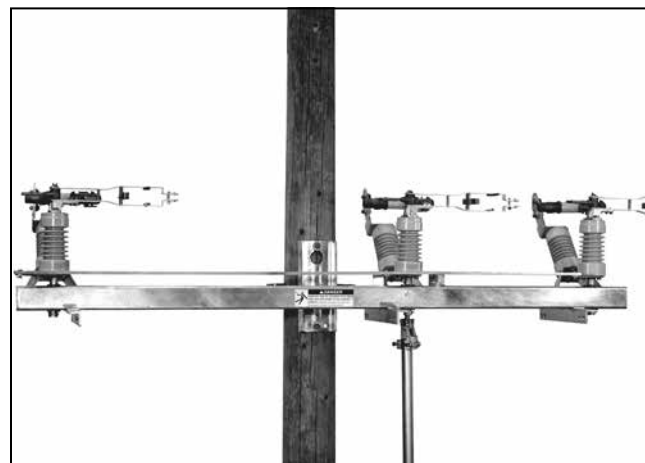

Figure 34. Checking that switch blades are 90 degrees from the Closed position.
- (b) With the operating handle as far as it will go in the *opening* direction, the switch blades are 90 degrees from the **Closed** position. See Figure 34.